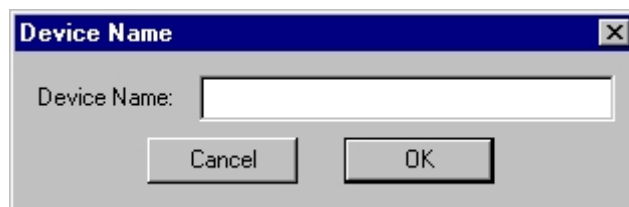

Figure 12-2: Device Name Dialog Box
1. Click New in the Simulator window. The Device Name dialog box appears (Figure 12-2).